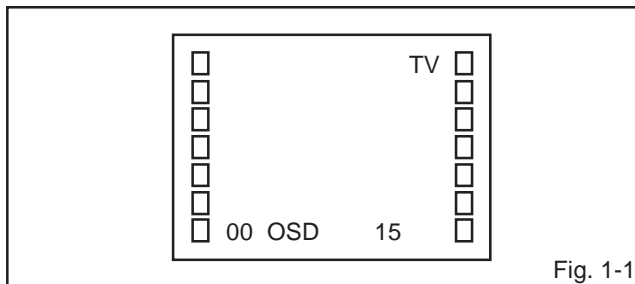

Fig. 1-1
Press the VOL. DOWN button on the set and the Channel button (9) on the remote control for more than 1 second to appear the adjustment mode on the screen as shown in Fig. 1-1.
3. Activate the adjustment mode display of Fig. 1-1 and press the channel button (02) on the remote control to select "RF DELAY".
3. Activate the adjustment mode display of Fig. 1-1 and press the channel button (01) on the remote control to select "CUT OFF".
4. Activate the adjustment mode display of Fig. 1-1 and press the channel button (10) on the remote control to select "R.BIAS".